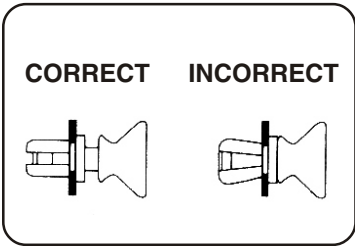

Fig. 7
- 3. With the lock knob left in the pulled-out position, close the lamp bulb replacement cover. Then push in the lock knob to lock the cover. (Fig.7)